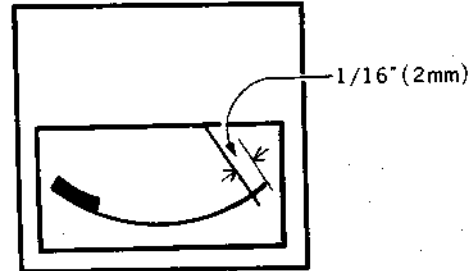

Fig. 4-5-1 Tuner Input Meter Calibration
- (2) Tune the set and adjust R_{251} (1kΩ), the Meter Calibration, to get the meter pointer to 1/16" (2 mm) left of its maximum indication. See Fig. 4-5-1.